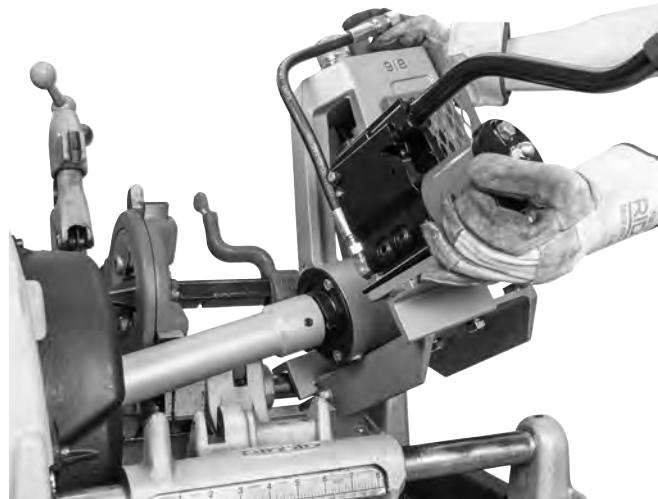

Figure 9 – 918 Roll Groover on 535 Threading Machine Mounting Base
4. With the end of the drive bar in the machine chuck, place the open slot of the base (stabilizer side) over the rear carriage rail and lower the pump to the front carriage rail. See *Figure 9*.